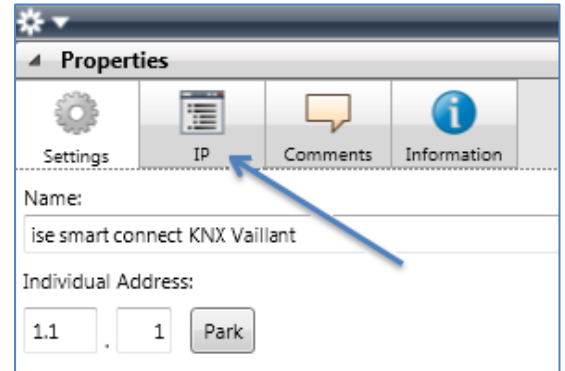

Figure 7: Device properties dialogue of the ETS
2. Display the properties of the device in the sidebar of the ETS as shown in Figure 7: Device properties dialogue of the ETS.